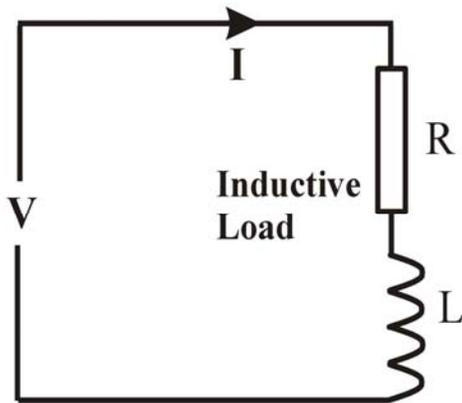

Fig 1. A generator feeding power to an inductive load, for example an induction motor.
The motor represented by Fig 1 does not get the benefit of all the current (I)shown here. It can only use the component that is in phase with the voltage, i.e. $I \cos\phi$.